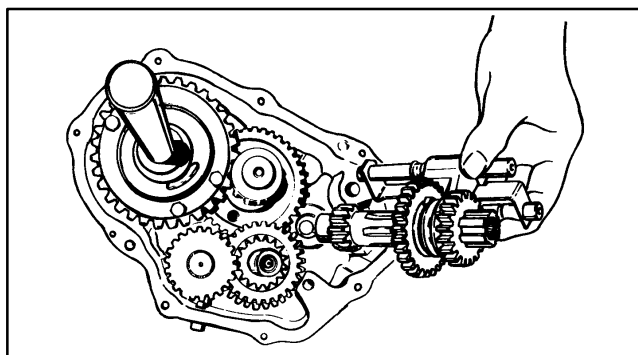

Figure 22
10.Center thrust washer (item 16) on the pinion shaft bearing. While squeezing shifter rods to hold shifter assembly together, install pinion shaft and shifter assembly into cover (Fig. 22).
11.Install reverse idler shaft (item 64), spacer (item 65) and reverse idler gear (item 66) into cover. Note that spacer goes between the gear and cover and the beveled side of idler gear should be down into the cover.
12.Install three gear cluster (item 36) onto brake shaft. Place thrust washer (item 16) on brake shaft.
13.Place gasket (item 30) on cover sealing surface and then install case over differential shaft. Make sure the case boss goes under the gears and the case edge goes over the shaft rods by tilting and rotating the case in the opposite manner in which it was removed.
15.Align the case and cover with two (2) dowel pins. Install eleven (11) flange head screws. Torque screws to 10 ft-lb (13.6 N-m).
16.Lubricate new oil seals. Install input shaft seal (item 60) into case and brake shaft seal (item 45) into cover.
17.Lubricate and install new oil seals (item 45) and o-rings (item 72) to oil seal retainers (item 42). Install seal retainers to transaxle case and cover.